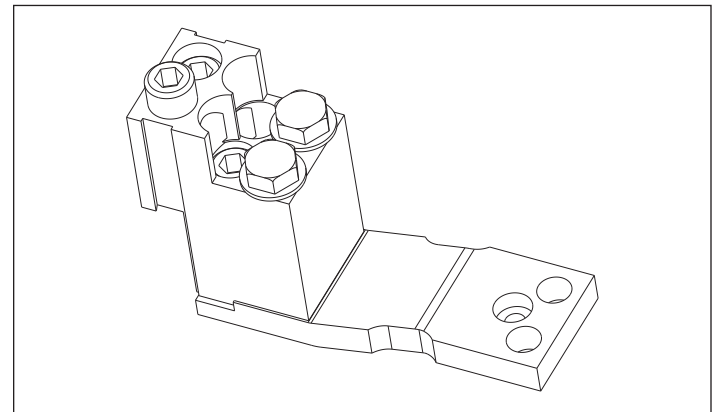
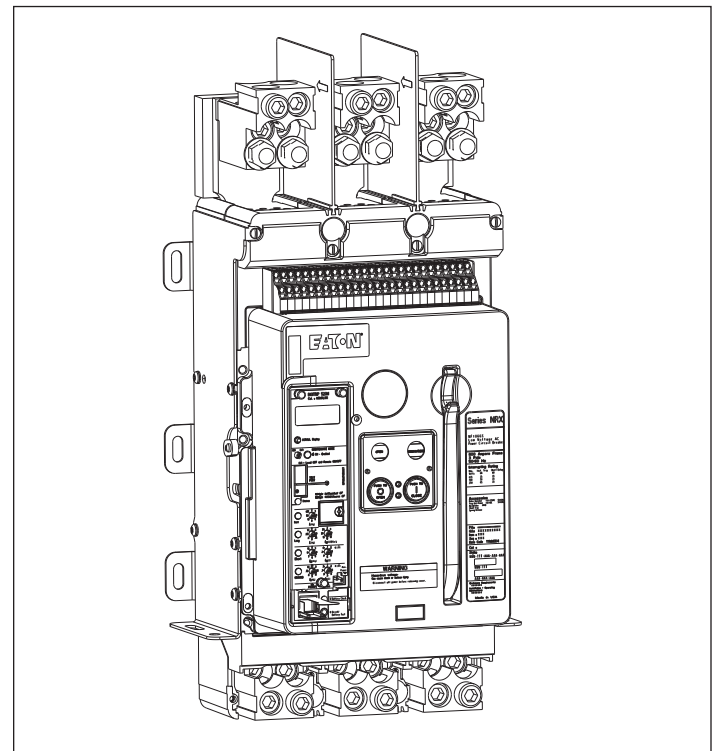

Figure 13. Bus conductor extension with cable terminal
Figure 14. Step 7.1—Cable terminals connected directly to bus adapters on load side and supported bus extenders on line side
Cable terminal connections can be made directly to the bus adapters inside the breaker load side or to the bus conductor extensions that extend out of the load side of the breaker (refer to **Step 5**). Cable terminals are shown in **Figure 14** and described in **Table 2**.
1. Bolt the cable terminals directly to the bus adapters using the hardware provided (**Figure 14**). Cable terminals can also be bolted to the bus connector extensions (**Figure 13**). Torque the bolted connections to 35 ft-lb (47 N-m).